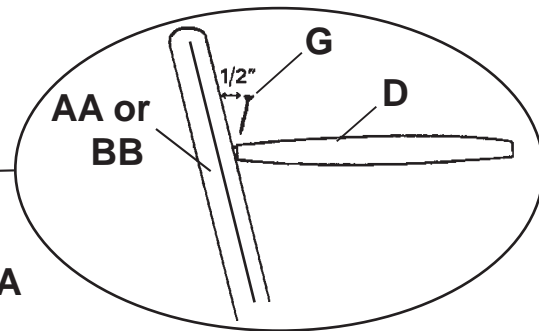

FIG. 4A
- 4) Apply an even coat of glue inside the four leg holes in the Seat (E). Insert the four legs into the holes in the Seat and tap them firmly into place. Tap Stretchers completely into the Legs after leg assembly is attached to seat. After all legs are in place, set the stool on a hard flat surface to make sure that the legs are even, and the stool does not wobble. If the stool does wobble, determine which two legs seem to be short (they will be diagonally across from each other). Turn the stool over and pull these legs toward each other. Check to see if the wobble has been corrected. Repeat this step until stool sits level. Allow the glue to set 4 to 6 hours.
- 5) For added strength, screw a #8 x 1⁵/₈" Black Screw (F) through each leg chuck into the seat. The screws must be inserted at such an angle so that they do not go through the other side of the leg or top of the seat. Screw a #8 x 1¹/₄" Black Screw (G) through both ends of the four Long Stretchers (D) into the legs. Insert the screws into the slightly higher pair of Long Stretchers first. The screws must be inserted at such an angle so that they do not go through the other side of the leg. See FIGURE 4A. No Screws are required for the Short Stretchers (CC).